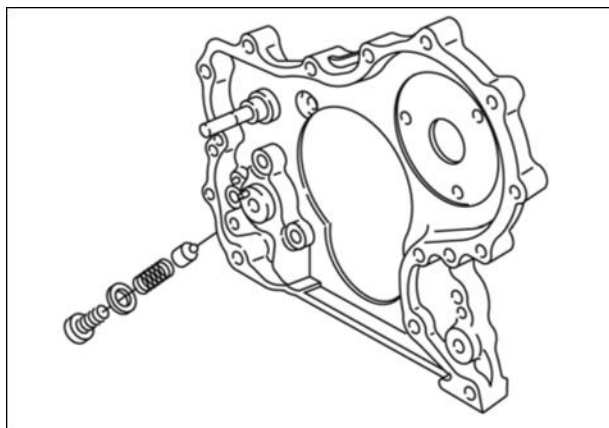

Figure 12
5. Remove and check pressure relief valve assembly (Figure 12).